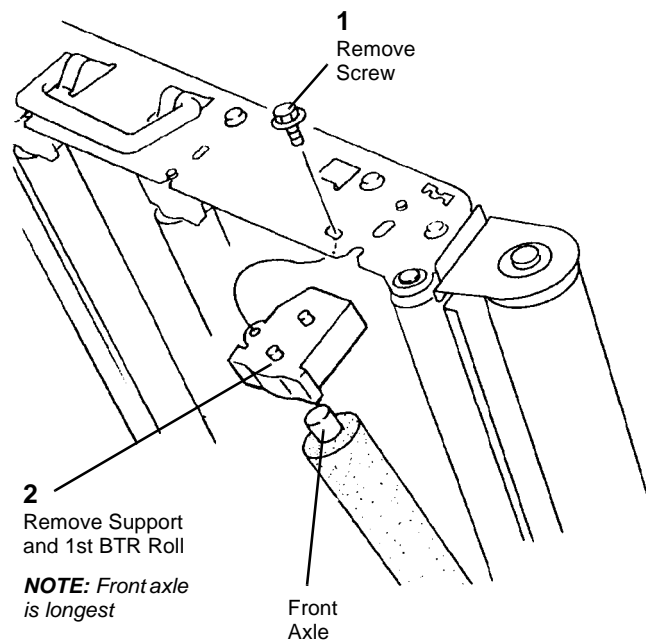

Figure 1 Removing 1st BTR Roll
6. Remove 1st BTR Roll (Figure 1).